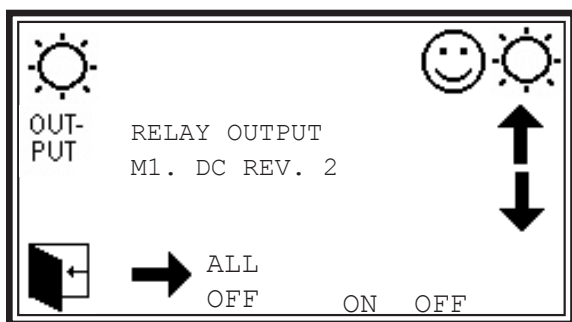

Fig 1
3. Press the right arrow (Fig 1)